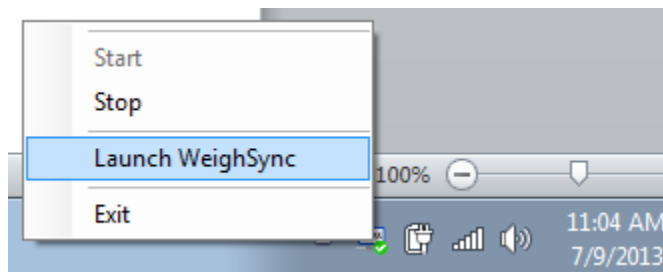

Figure 1-10: WeighSync in System Tray
- By launching the application from the tray icon menu (Figure 1-10).